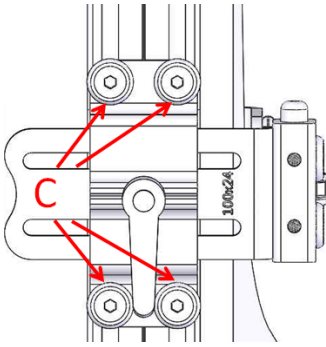

Figure 5-129
5.3.10.4 Use the #4 Allen Key Wrench to loosen the screws C. The trunk support can be moved up or down. Re-tighten all screws. (Figure 5-129)